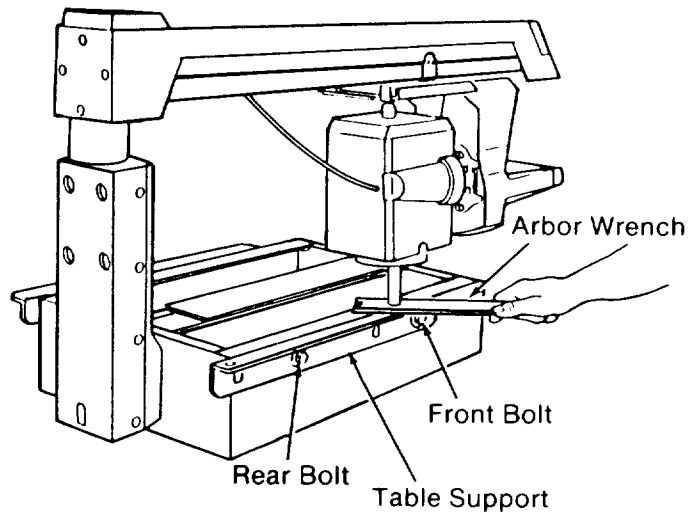

Fig. 41
15. Place the *arbor wrench* over this point. (Figure 41)